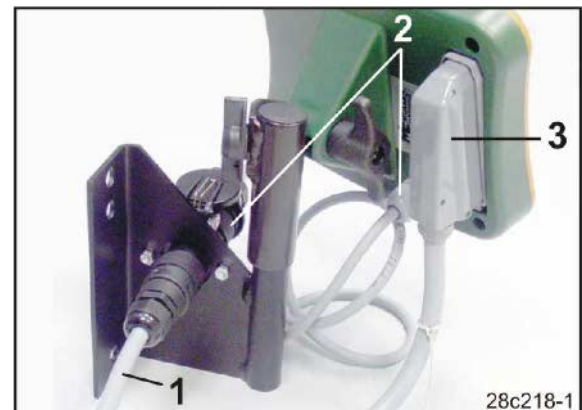

Fig. 69
2. Insert the power cable (Fig. 69/1) into the console and the 12V tractor socket.
3. Connect the console and the terminal with the power cable (Fig. 69/2).
4. Route the cable with the implement plug (Fig. 69/3) into the tractor cab and insert it into the implement plug in the terminal.